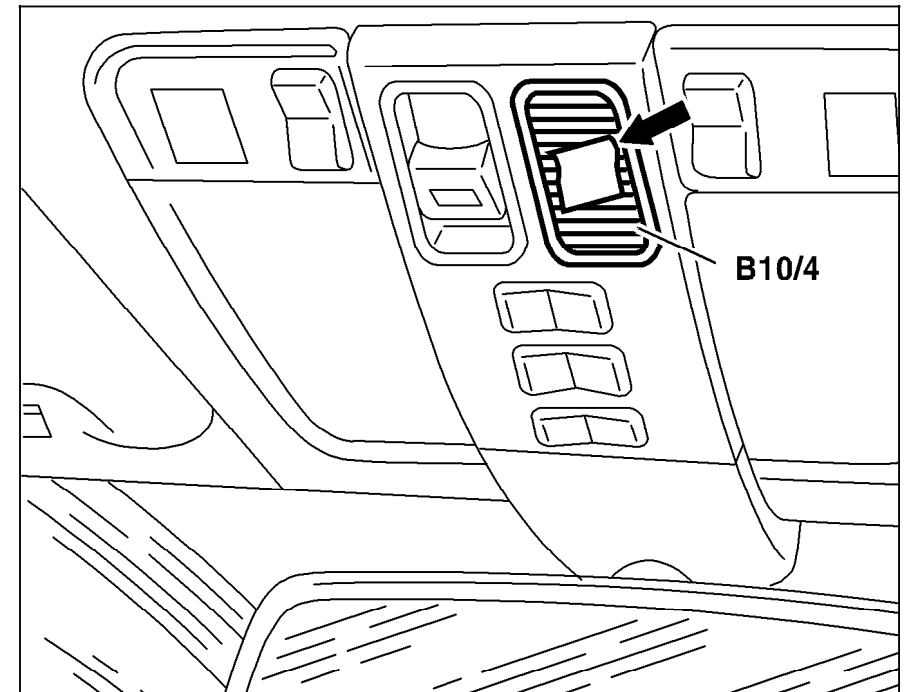

Figure 1
2. Check in - car temperature sensor by placing a small piece of paper (approx. " sq.) over aspirator blower vent grille with ignition "ON" (arrow, Figure 1). If there is sufficient ventilation the paper will remain on the vent grille, if not check aspirator blower for voltage supply and function.